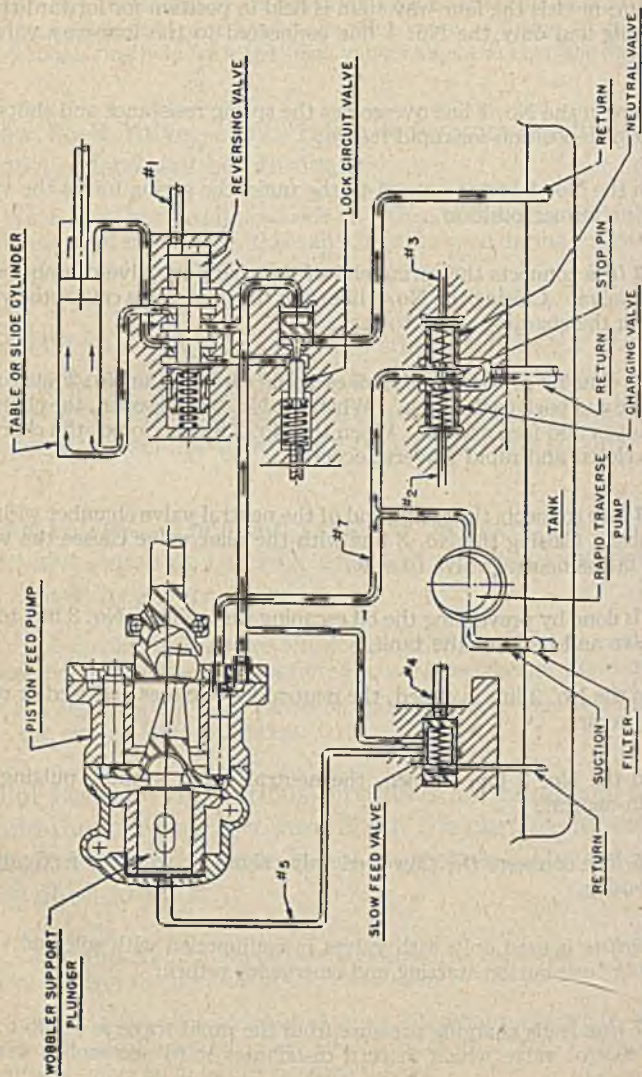

Fig. 11.—Schematic diagram of the hydraulic circuit as described in the accompanying text.
**Pilot Lines.**—The various pipe lines are numbered as in fig. 11, and the following is a word about the purpose for each. Line from pilot valve to tank is not numbered. This line returns excess of oil to tank.